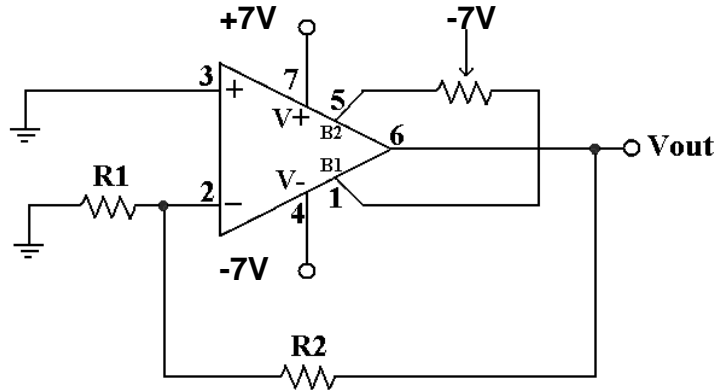

Fig. 6. Elimination of offset voltage
3. To minimize the offset voltage, turn off the power supply first and connect a $20\text{ k}\Omega$ potentiometer (pot) to pins 1 and 5 as shown in Fig. 6. Be sure to connect the center tap of the pot to the -7 V supply. Turn on the power supply and use the pot to zero the Opamp's output. This is how offset voltage is compensated.